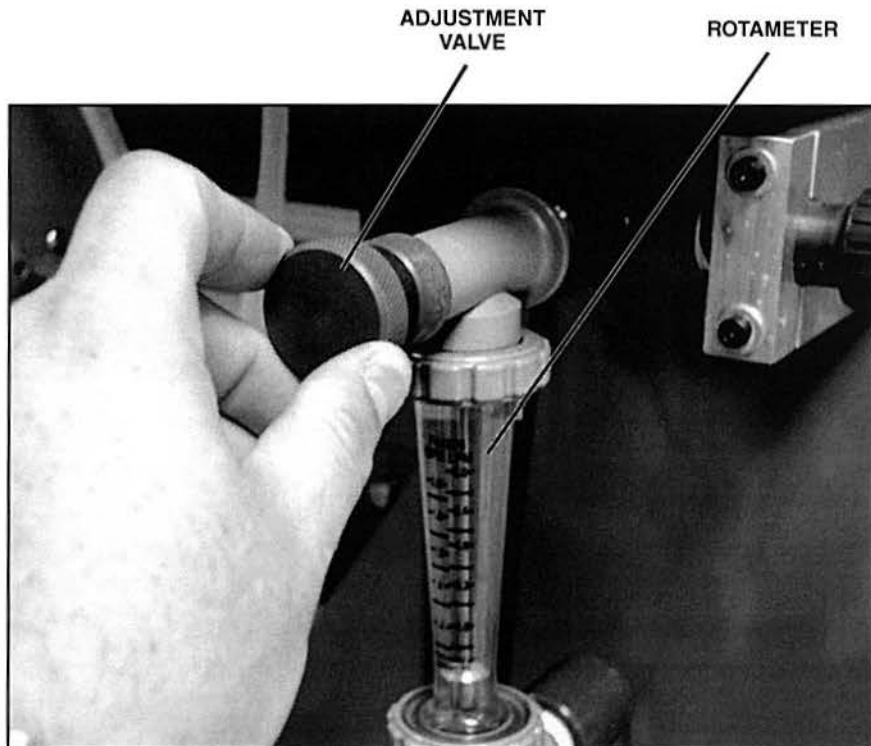

Figure 61. Adjustment Valve on Rotameter
- B. Place the **CIRCULATION PUMP** and **AGITATOR MOTOR** selector switches in the **ON** (CW) position.
- D. Set the flow rate to **1.8 gpm** using the adjustment valve on the rotameter, shown in figure 61.